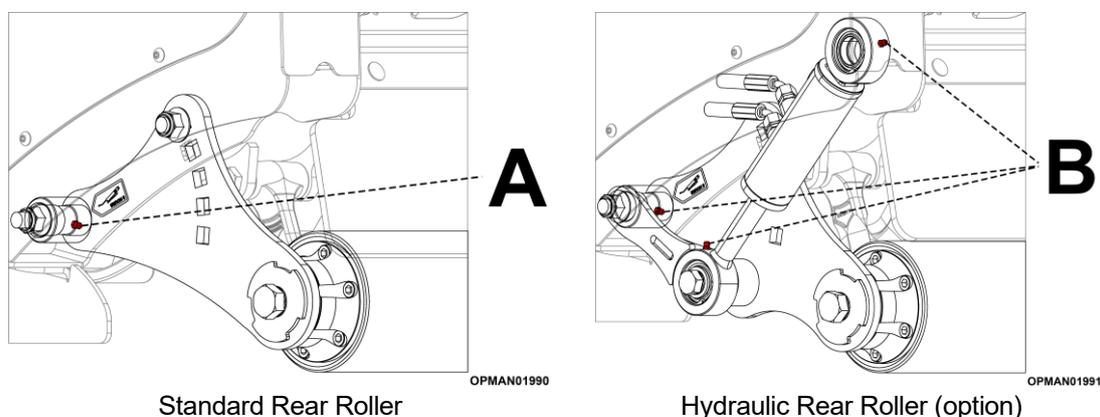

Figure 5.4 – Powerdrive Pro Rear Roller
The standard rear roller features one grease point which needs to be greased on a daily basis on the main pivot hinge on each roller bracket mounting point; see Figure 5.4 (A).
The hydraulic rear roller option features three grease points which need to be greased on a daily basis. The main pivot hinge, and one at either end of the hydraulic rams on each roller bracket mounting point; see Figure 5.4 (B).